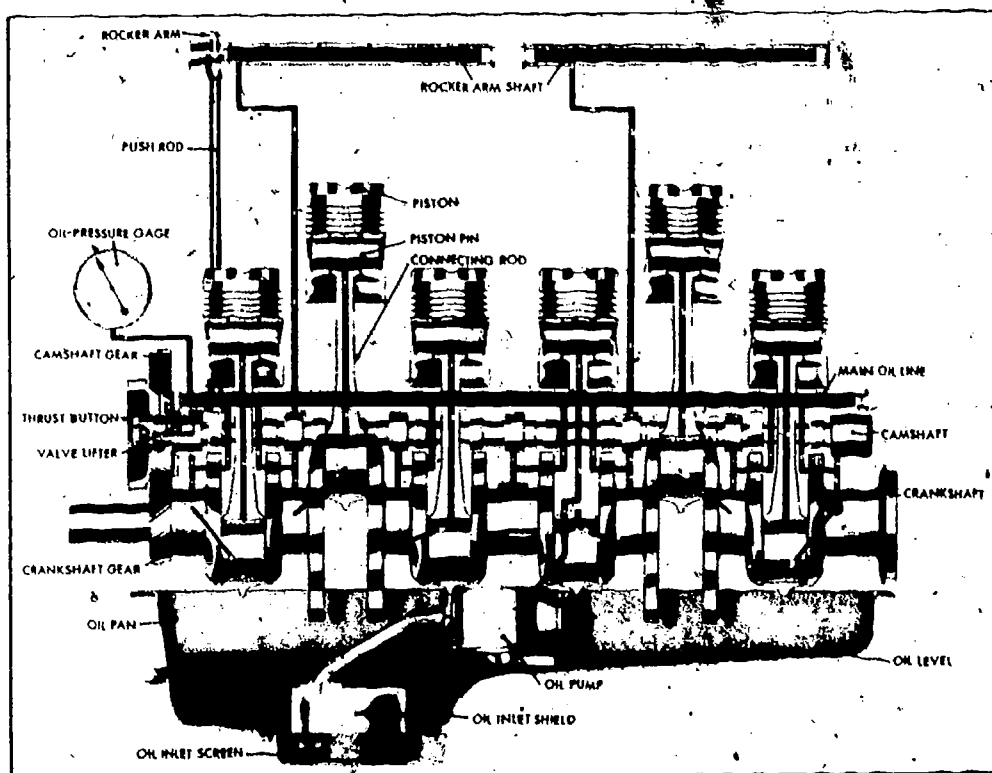

Fig 2-15. Typical full force-feed lubrication system without an oil filter.
d. Lubricating system (fig 2-15). The primary function of a lubricant is to reduce friction. In an engine there are several moving parts that create friction. Heat caused by friction can cause great damage to an engine. The lubrication system reduces friction by forcing or splashing lubricant between the moving parts, preventing metal-to-metal contact. The lubricant also acts as a sealer between the moving parts and helps clean the engine parts. As the lubricant flows through the engine it carries foreign matter with it and absorbs some of the engine heat. There are three types of lubricating systems: splash and force-feed, force-feed, and full force-feed (fig 2-15). The force-feed and full force-feed are used in most engines. Larger engine equipment engines use the full force-feed system, where the oil is forced through the system by a gear or rotary-type pump. These are positive-displacement pumps with a pressure relief valve. They draw the oil from the oil pan sump and force it into an oil gallery (passage, main oil line) where it is directed to the engine parts and components through drilled passages. On some engines the oil passes through a filter before entering the oil gallery; other engines filter a portion of the oil that enters the oil gallery. After the oil has performed its function, it drains back to the oil pan. Air circulating through the crankcase cools the oil as it returns to the pan. The oil-pressure gage is usually attached to the oil gallery and indicates the pressure within the system. A satisfactory reading on the gage does not insure that the engine parts are being lubricated. A restriction between the oil gallery and the moving parts will stop the flow of oil but still maintain the oil pressure in the gallery.